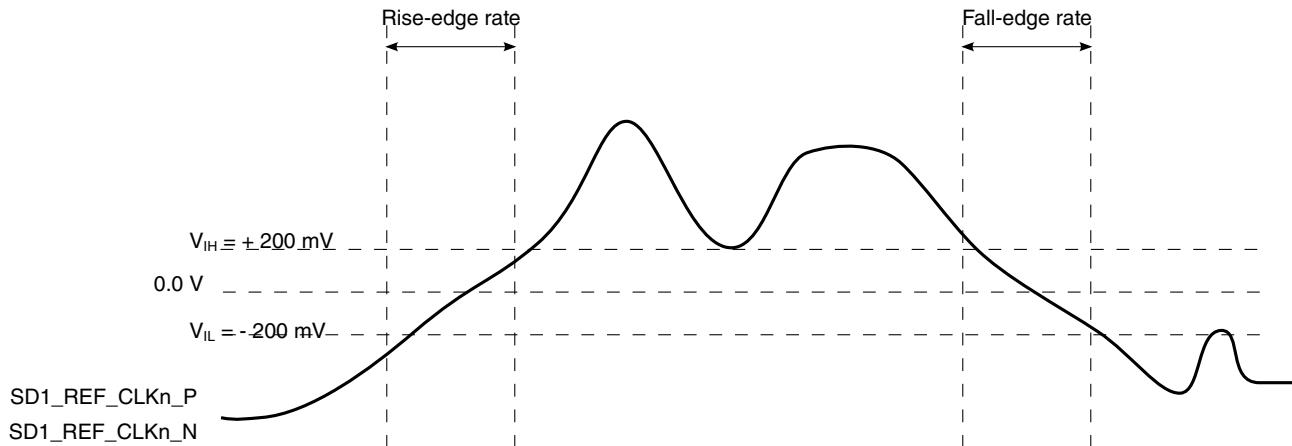

Figure 77. Differential measurement points for rise and fall time
within a differential pair. There is only one signal trace curve in a differential waveform. The voltage represented in the differential waveform is not referenced to ground. See Figure 77 as an example for differential waveform.
9. Measured from -200 mV to +200 mV on the differential waveform (derived from SD1_REF_CLKn_P minus SD1_REF_CLKn_N). The signal must be monotonic through the measurement region for rise and fall time. The 400 mV measurement window is centered on the differential zero crossing. See Figure 77.